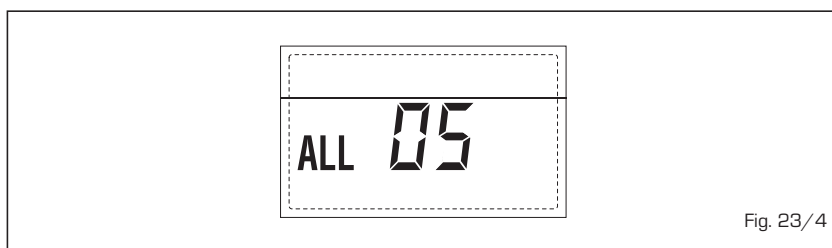

Fig. 23/4
– **BLOCCO FIAMMA “ALL 06” (fig. 23/5)**